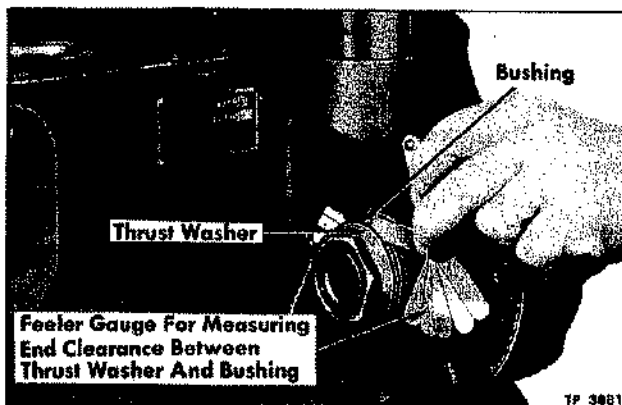

Figure 55—Checking End Clearance of Blower Drive Gear
6. Before loosening lock nut on gear hub, check end clearance between gear hub bushing and thrust washer (fig. 55). If end clearance is excessive, this
1. Coat outside diameter of drive gear hub (13) with engine oil, then slide hub into support (10) from rear.
2. Install locking ball (14) into gear hub then install thrust washer (5) in place over ball, with large diameter flat face of washer next to thrust face of bushing.
3. Prevent hub turning by inserting bolts into two holes in hub; then holding with a bar. Install a new lock washer (4) next to thrust washer, and tighten lock nut until clearance (fig. 55) between thrust washer and bearing flange is as given in SPECIFICATIONS section of this manual. Bend the ears of lock washer against flats on nut to prevent nut loosening.
4. Tap blower drive gear (15) onto hub. Flat finished face of gear must be away from bearing
5. Apply engine oil at each thrust shoulder of bushing, and again check end clearance between bushing and thrust washer (fig. 55).